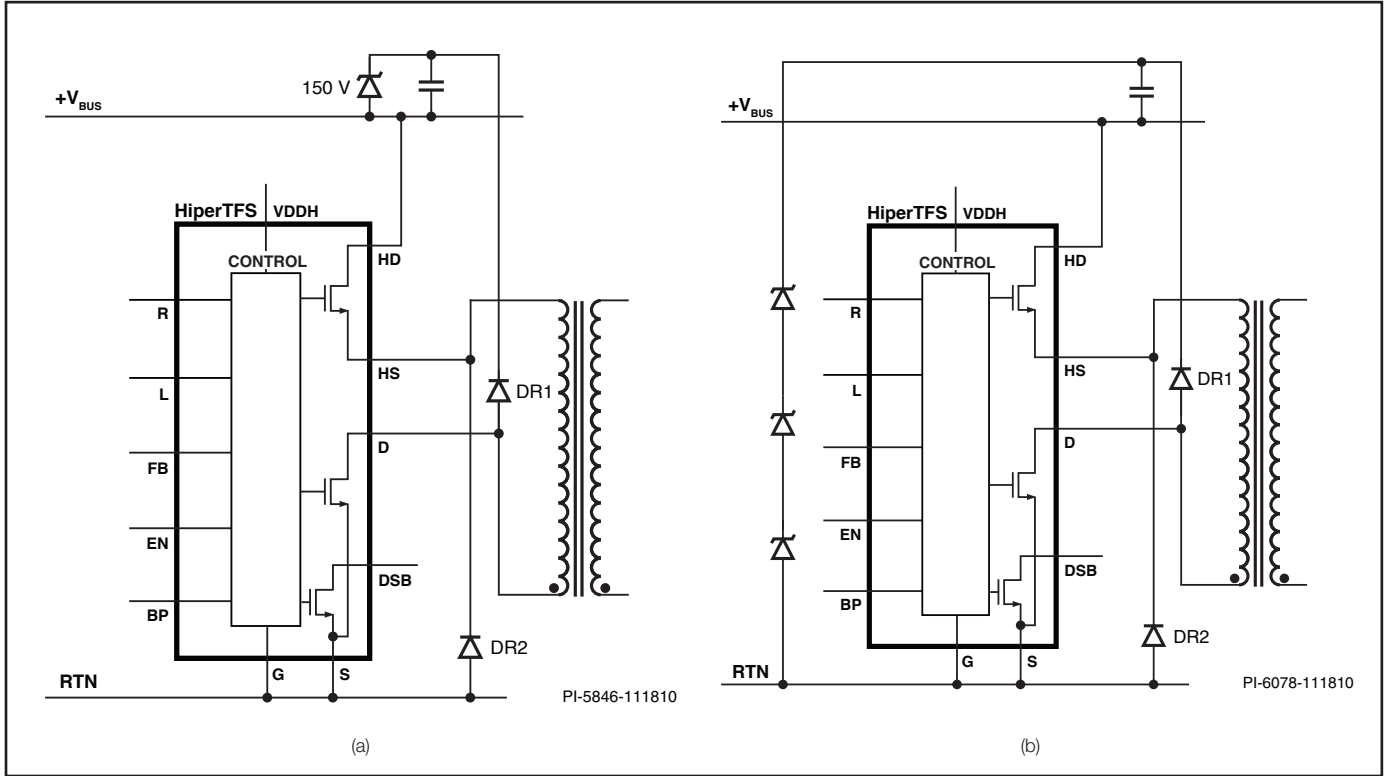

Figure 7. Clamp-to-Rail (a) and Clamp-to-Ground (b).
be reset and recovered in a safe manner. There are two options for main transformer reset within [CLAMP SELECTION]: clamp-to-rail and clamp-to-ground (see Figure 7 for both clamp schematics). Clamp-to-rail clamps the bottom main switch to a constant value above the input DC bus (385 VDC). This is the simplest and least expensive clamp method and also has the convenience of allowing the standby converter to share the clamp network. Clamp-to-ground is the second option which creates a constant reset voltage with respect to primary ground and has the advantage of allowing wider nominal operating duty cycle, which offers either the advantage of lower RMS current for the primary main switches of HiperTFS or allows the use of a smaller input bulk capacitor. The default nominal duty cycle [D_{VNOM}] for clamp-to-rail is 0.45 and the default for clamp-to-ground is 0.49.
- The default nominal operating duty cycle is 45% for clamp-to-rail. Notice from Figure 7 the circuit includes a 150 V Zener. This allows a maximum duty cycle at V_{MIN} to be greater than 58% for the example spreadsheet shown. [D_{MAX} V_{MIN}] is typically 60% for clamp-to-rail setting. The value of the clamp Zener is selectable; however, a value range from 130 V to 150 V is advised. Care should be taken when entering a duty cycle higher than 45% for clamp-to-rail as it may cause a T_{HOLDUP} warning. Generally higher nominal operating duty cycles require changing the clamp mode to clamp-to-ground to increase reset voltage across transformer during brownout. A nominal operating duty cycle of up to 50% can be achieved with clamp-to-ground. The default value of [V_{CLAMP}] in clamp-to-ground configuration is 530 V.
- The items in the rows below are computed values for transformer design parameters including total primary turns [N_p] and peak flux density of core. [BM_{MAX}] is the nominal absolute peak flux excursion during normal operation. [BP_{MAX}] is the absolute peak flux excursion allowed by the L and RESET pin reset limiter circuit. The external clamp circuit, including the standard recovery diode DR1 (Figure 7) and the effective primary winding capacitance help set the core flux significantly negative at the end of the reset (off-time) cycle. This is why [BM_{MAX}] and [BP_{MAX}] are a lower value than [BM PK-PK] and [BP PK-PK]. [BM_{MAX}] and [BP_{MAX}] are important parameters to determine flux density margin below core saturation during transient conditions. [BM PK-PK] and [BP PK-PK] are useful for determining core loss.